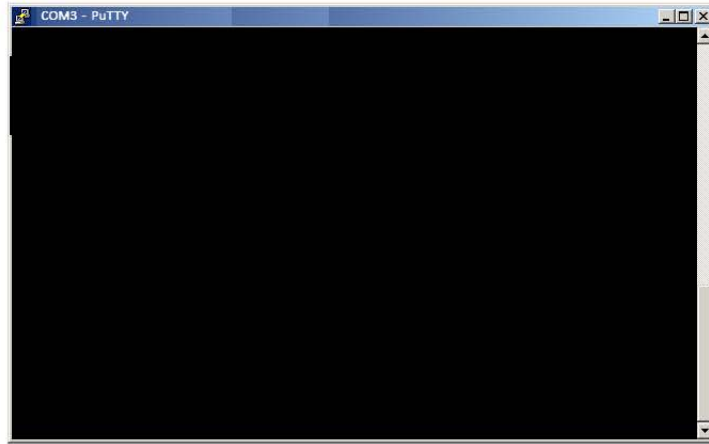

Figure 90. PuTTY Terminal Window
- e. After clicking the **Open** button, the terminal window opens in which you enter desired commands (see Figure 90).